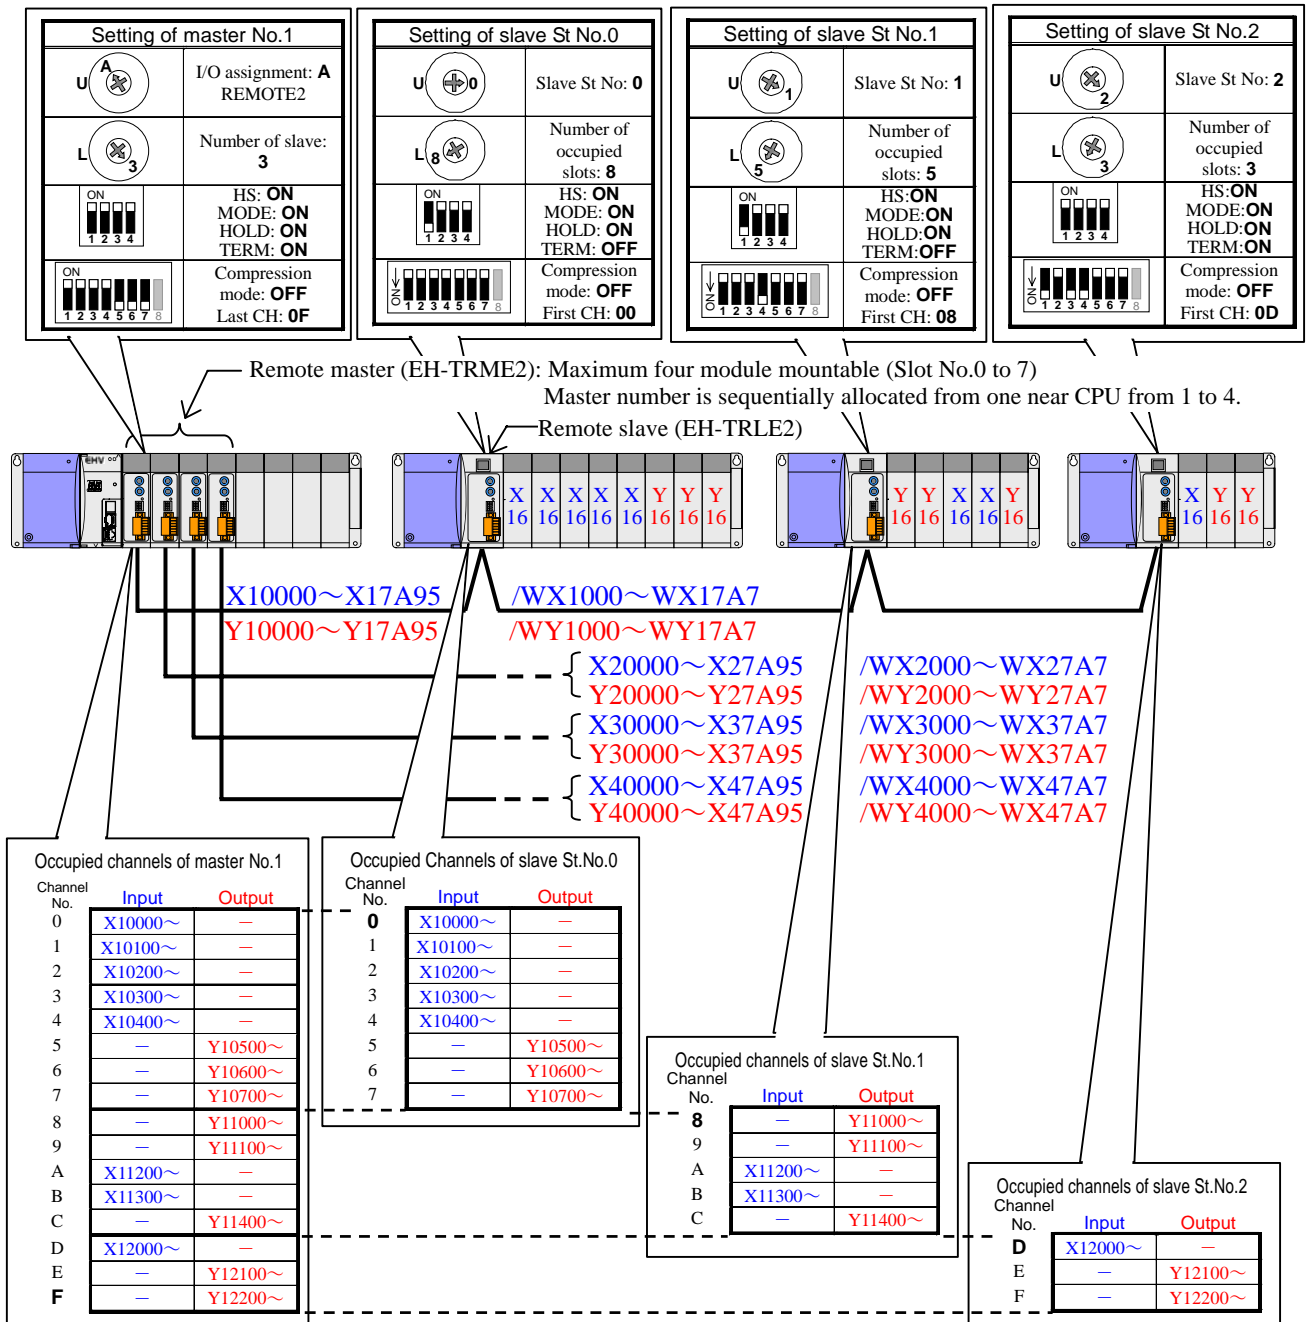

Figure 4.3.4 System configuration example (I/O assignment of master: “REMOTE2”)
Basic system configuration example that I/O assignment of master module (EH-TRME2) is “REMOTE2” is shown in Figure 4.3.4.
- 4) Maximum 8 slave modules can be connected to one master module. (Example of Figure 4.3.4 is 3 slaves.)
(Assignment of Figure 4.3.4 configuration example by Control editor)